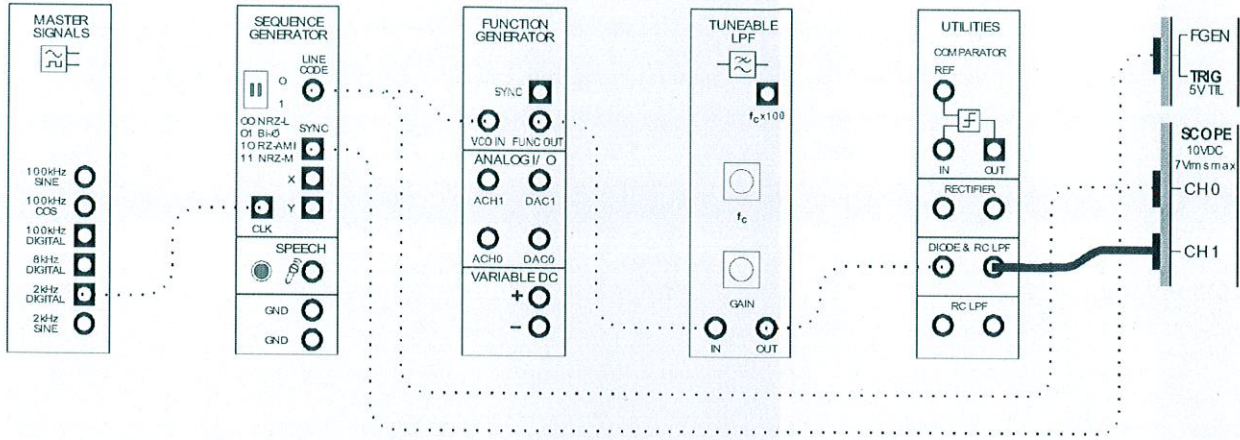

Figure 6
22. Modify the set-up by connecting the scope's Channel 1 input to the envelope detector's output as shown in Figure 6 below.